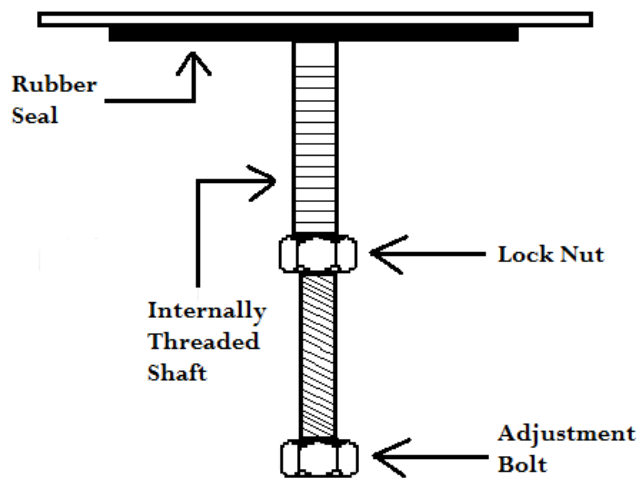

Fig 3A
- 2) Locate the lock nut as shown in Figure 3A